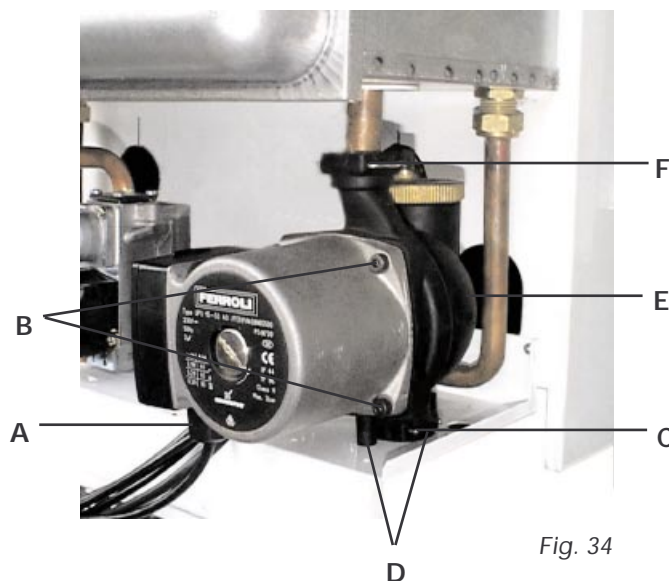

Fig. 34
7.16 Pump (fig. 34)
Replacement of pump body (fig. 34)